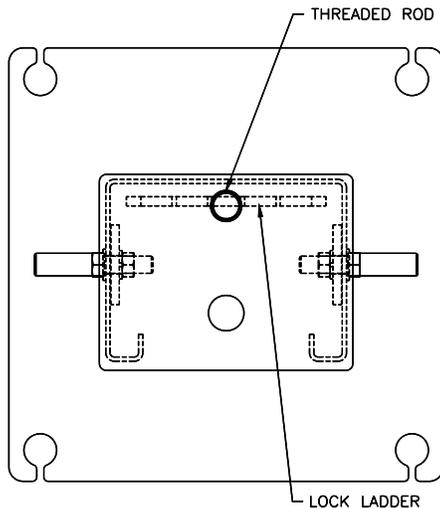

Fig 14 – Locking Ladder Orientation
22) Reassembly the lock ladder and top cap to column. Note: the lock ladder is offset from the center of the threaded rod and orientate per **Fig 14**.